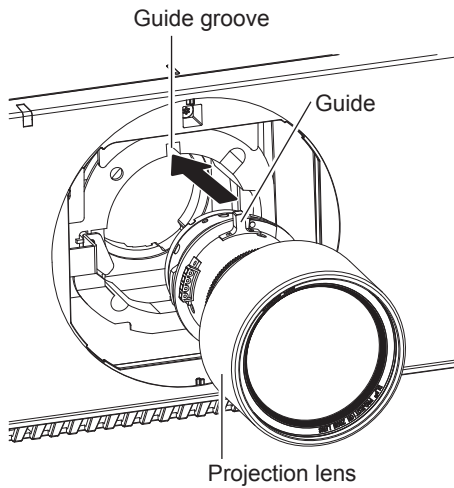

Fig. 1
- 1) **Remove the Lens Mount Cover, and align the projection lens guide to the guide groove of the projector and insert to the end. (Fig. 1)**